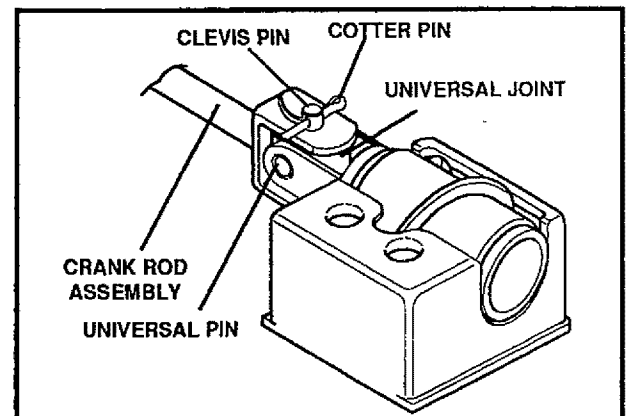

FIG. 5
- Carefully remove cotter pin, clevis pin and drilled pin from yoke end of crank rod assembly (See FIG. 5).
- Place universal joint into end of worm gear lining up large holes. Insert universal pin (ensure opening in pin is in line with small openings in universal joint) (See FIG. 5).
- Place yoke end of crank rod around universal joint, lining up openings. Insert clevis pin through assembly and secure with cotter pin. Spread ends of cotter pin to lock in place (See FIG. 5).